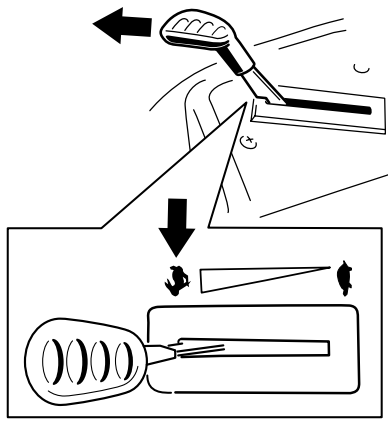

Figure 16
**Note:** Always engage the blades with the throttle in the FAST position (Figure 16).